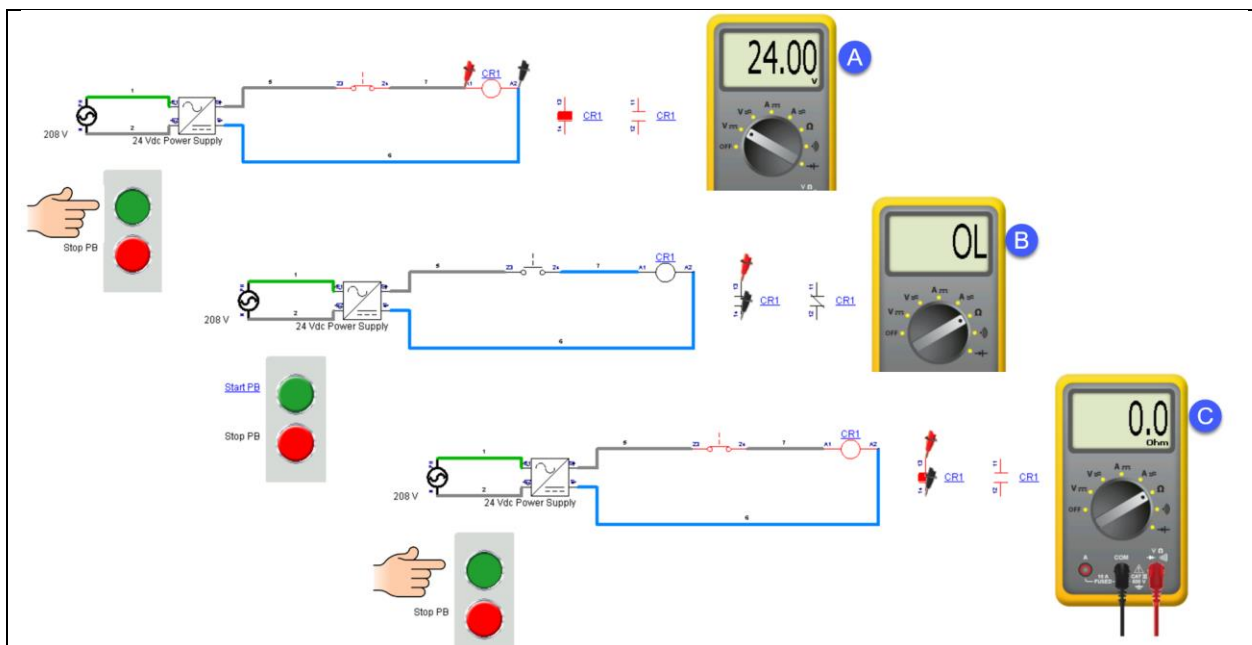

Figure 11. Measuring voltage and resistance in a circuit.
2. Measure the DC volts across the relay coil (CR1) with the pushbutton actuated (as shown in Figure 11-A) _____.
3. Measure the resistance of the N.O. contact on the CR1 relay with the StartPB (green) not actuated (as shown in Figure 11-B) _____.
4. Measure the resistance of the N.O. contact on the CR1 relay with the StartPB actuated (as shown in Figure 11-C) _____.